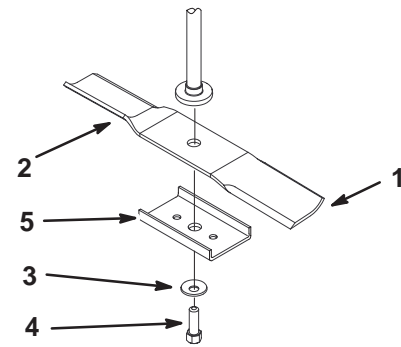
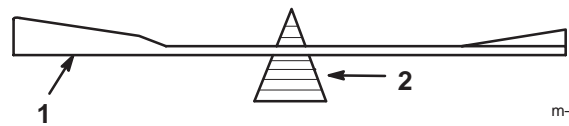

Figure 30
Figure 32
Hold the blade end using a rag or thickly-padded glove. Remove the blade bolt, curved washer, blade stiffener, and blade from the spindle shaft (Fig. 30).
2. Check the balance of the blade by putting it on a blade balancer (Fig. 32). If the blade stays in a horizontal position, the blade is balanced and can be used. If the blade is not balanced, file some metal off the end of the sail area only (Fig. 30). Repeat this procedure until the blade is balanced.
1. Install the blade onto the spindle shaft (Fig. 30).
2. Install the blade stiffener, the curved washer (cupped side toward the blade) and the blade bolt (Fig. 30). Torque the blade bolt to 35–65 ft-lb (47–88 N·m).